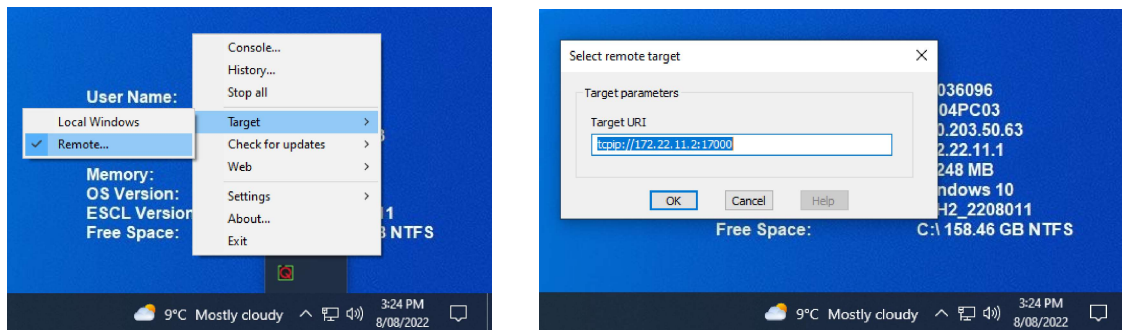

Figure 5: Change the target of QUARC (according to the screenshot on the left and the right) to be able to communicate with the hardware.
3. (Only needs to be done once.) If you connect the hardware for the first time change the Target to Remote according to Figure 5.